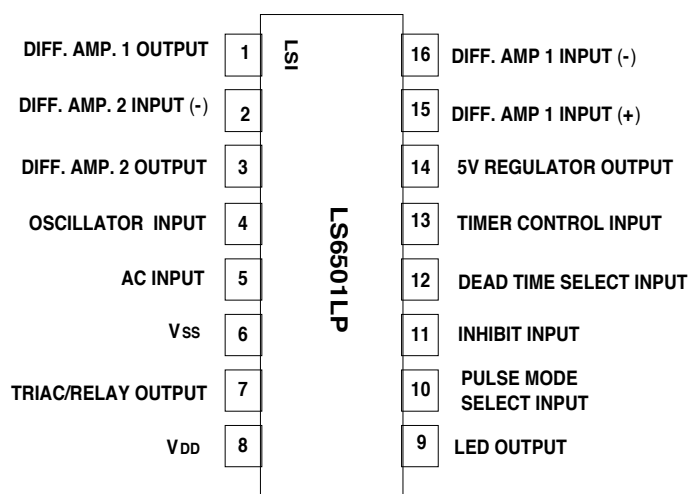

FIGURE 1
- LS6501LP (DIP); LS6501LP-S (SOIC-NB); LS6501LP-SW (SOIC-WB) - See Figure 1